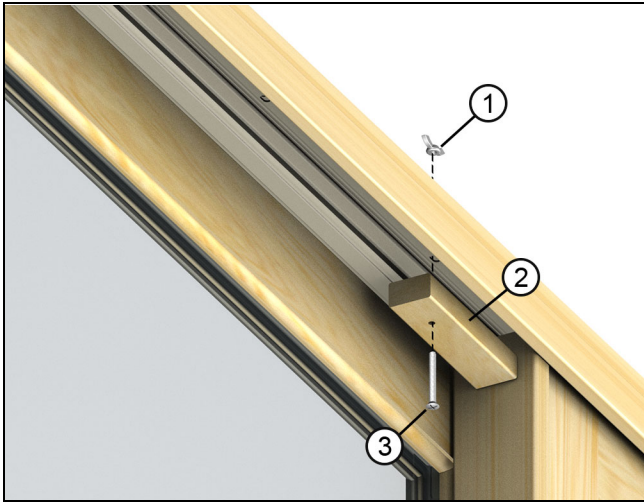

Figure 1 Panel guide is not shown for illustrative purposes.
1. From interior side of unit, remove wing nut, machine screw and shipping block from the head jamb. See Figure 1.